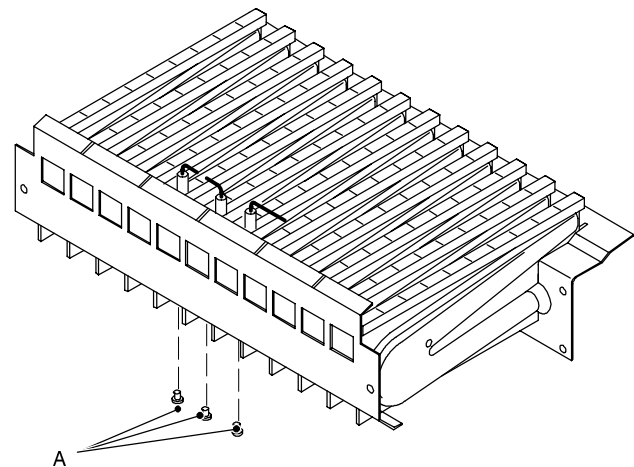

fig. 77
- 4 Unscrew the screws A (fig. 77) which hold the electrodes to the burner.